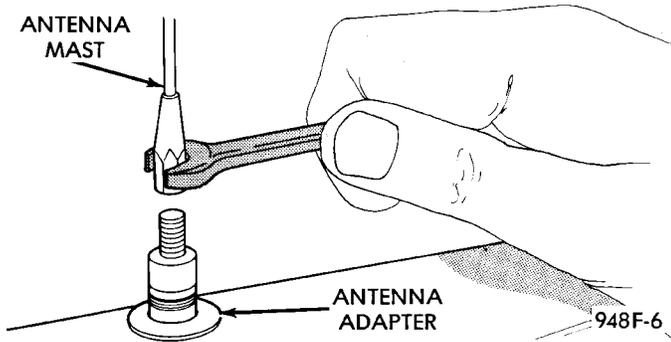
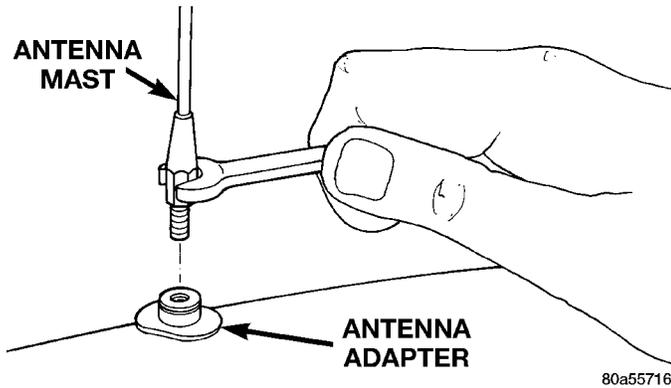
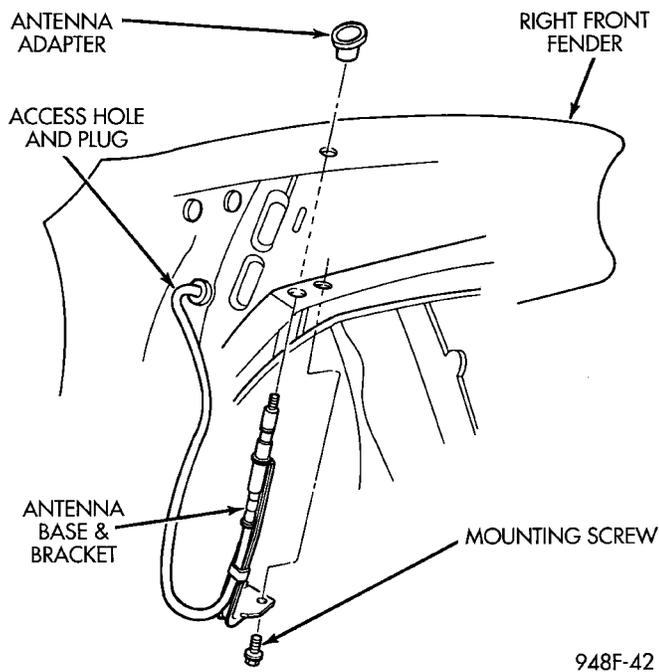

Fig. 3 Antenna Mast Removal
Fig. 4 Antenna Mast Removal - Export
Fig. 5 Antenna Mounting
- (1) Remove antenna mast by unscrewing mast from antenna body (Fig. 3), or (Fig. 4).
- (2) Locate the antenna lead disconnect in the instrument panel wire harness above the right kick panel. Disconnect the antenna cable from cable lead.
- (3) Unfasten push pins from the rear of the plastic inner fender shield and move shield to gain access to mounting screws (Fig. 5).
- (4) Remove mounting screw and remove antenna base and cable assembly from under the fender.